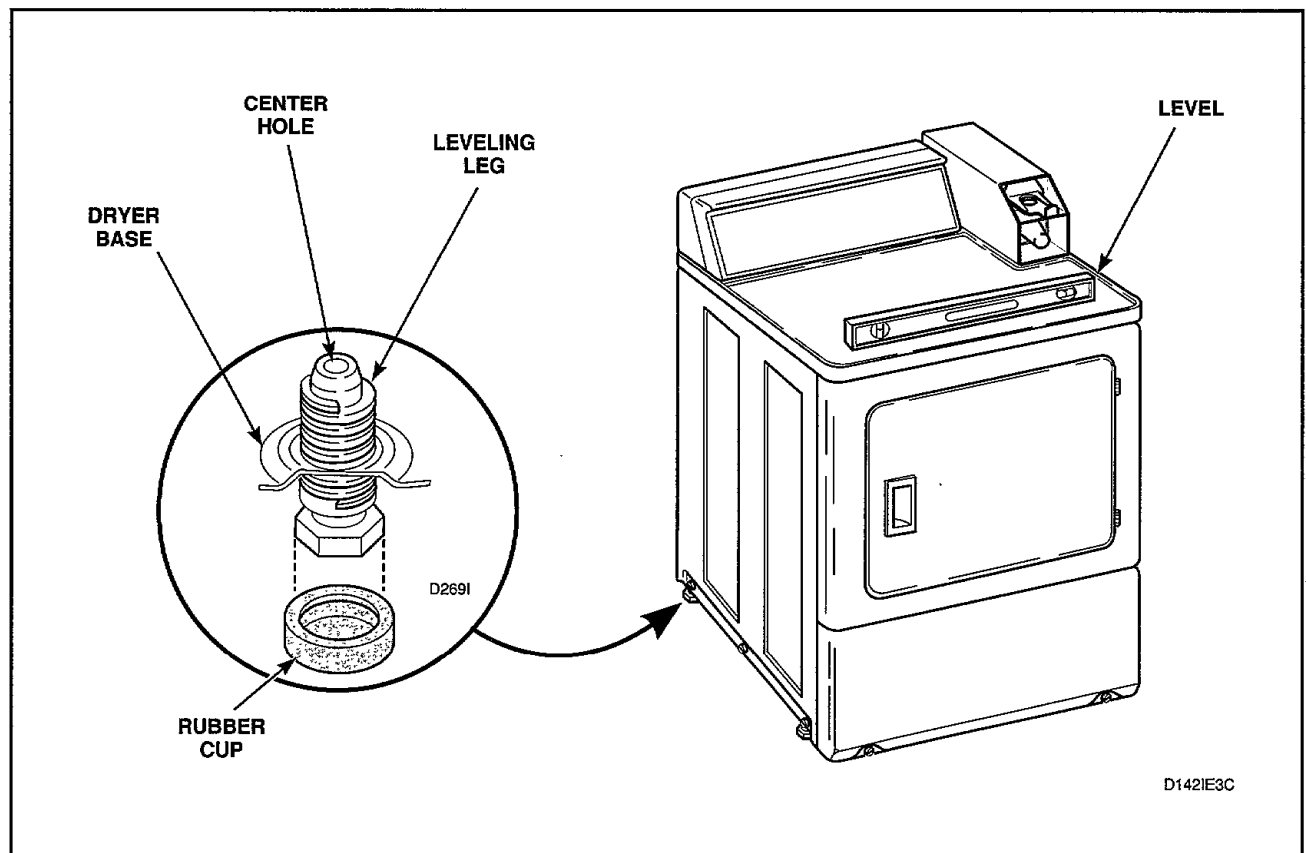

Figure 48
### 42. LEVELING LEGS (Figure 48)
- c. Place rubber cup (supplied with dryer) under each of the leveling legs, *Figure 48*.